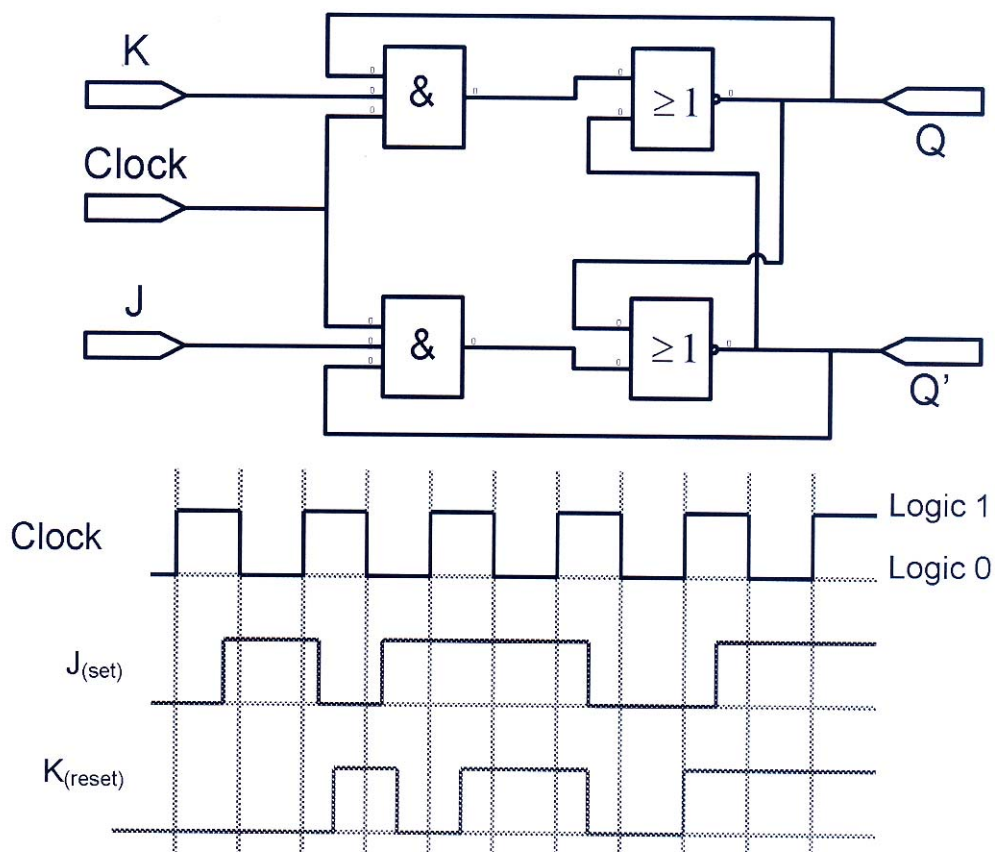

FIGURE 9.3: J-K FLIP-FLOP WITH INPUTS AND CLOCK PULSE
- 9.8 Draw the output-timing diagram of the J-K flip-flop in FIGURE 9.3 below if the following inputs are applied to J and K. Draw the output below the inputs to show the output in relation to the input. Note the state of the enabling clock pulse.